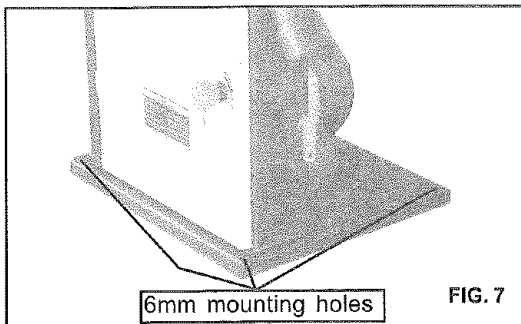

FIG. 7
g.To ensure sufficient upright stability of the machine it should be bolted to open stand (See the previous instruction how to place the machine on to the open stand ). For this purpose 6mm mounting holes are provided in the machine's base. (See FIG.7)